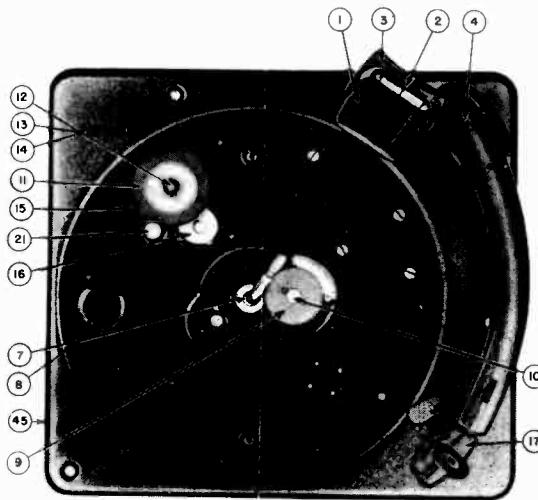

Fig. 7
AVOID EXCESSIVE LUBRICATION: Do not permit any oil or grease to get on the rubber Idler Drive Wheel or the Motor Pulley (11 and 21, Fig. 7), on Turntable drive rim or on the Automatic-Trip-Arm clutch. Any oil or grease on these parts should be removed with the aid of Carbon Tetrachloride.
3. Ball Bearing Assembly (7, Fig. 7).
4. Idler Wheel Felt (13, Fig. 7).
1. Idler Wheel Link (16, Fig. 7).
3. Teeth of Large and Small Idler Gears (9, Fig. 7).